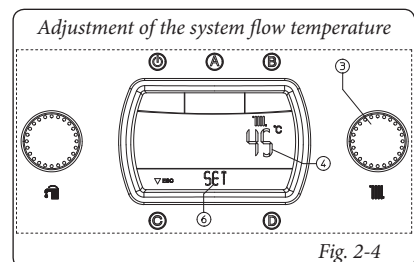

Fig. 2-4
- **Winter (❄️):** in this mode the boiler functions both for heating domestic hot water and heating the environment. The temperature of the domestic hot water is always adjusted using the selector switch (1), the heating temperature is adjusted using the selector switch (3) and the relative temperature is shown on the display (24) using the indicator (4) and the "SET" indication appears (Fig. 2-4). By turning the selector switch (3) in a clockwise direction the temperature increases and in an anti-clockwise direction it decreases.